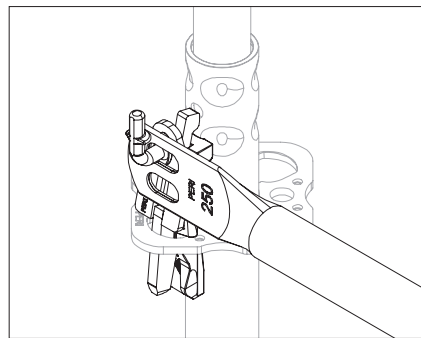

Fig. A5.08c
- Guardrail post is installed. (Fig. A5.08c)